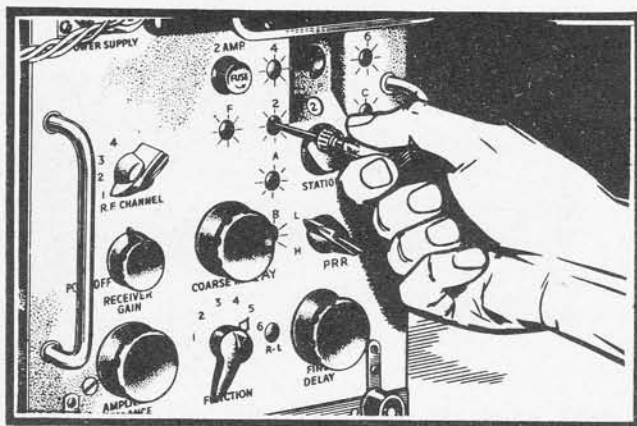

Figure 4-17
(5) 100-MICROSECOND INTERVAL COUNT. With the "FUNCTION" switch set to position "5," adjust the "B" screw driver control on the front panel until five 100-microsecond intervals appear between the 500-microsecond markers.
b. STATION RATE ADJUSTMENTS.—Figures 4-17 to 4-19 are for receiver-indicator emergency operation station rate adjustments.